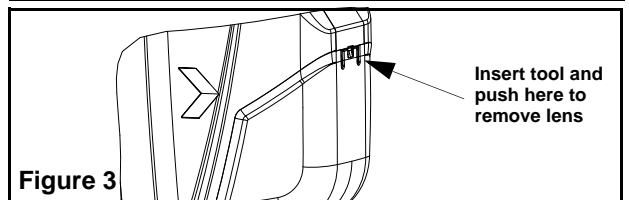

Figure 3
- Remove lenses (See Fig. 3) and discard plastic bags. Install lamps as shown in figure 5. Adjust the lamps in appropriate position. Re-install both lens.